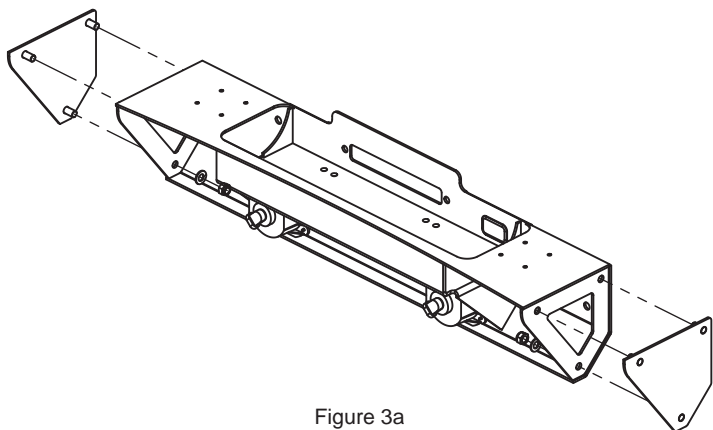
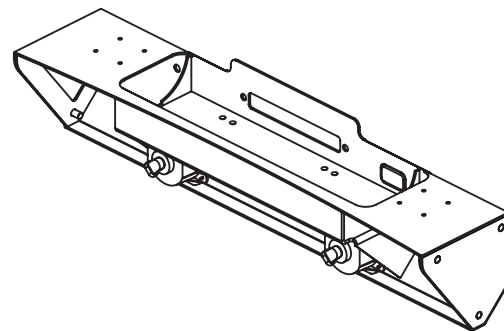

Figure 3a
Figure 3b
3. Install Ends using (3) 12mm washers and (3) 12mm lock nuts per side (Figure 3a). Once all nuts have been started, tighten them (Figure 3b).